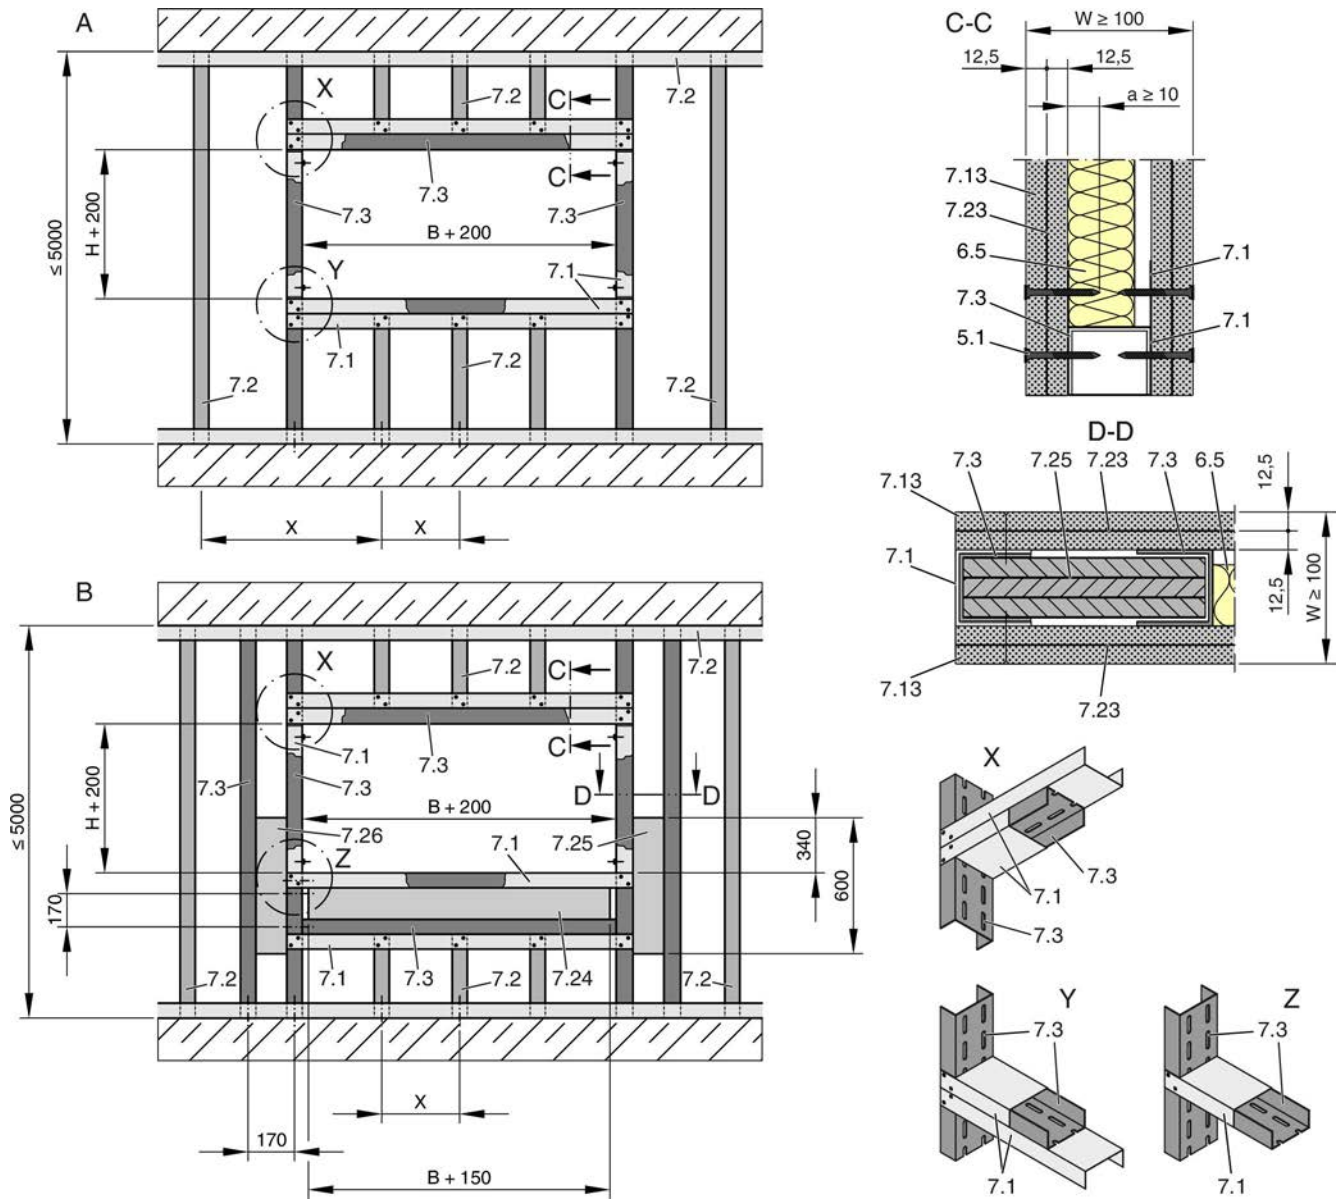

Fig. 20: Lightweight partition wall or compartment wall with metal support structure and cladding on both sides
- Erect the lightweight partition wall according to the manufacturer's instructions and create an installation opening, see Fig. 20
- Create an installation opening in the metal support structure; for details see Fig. 20